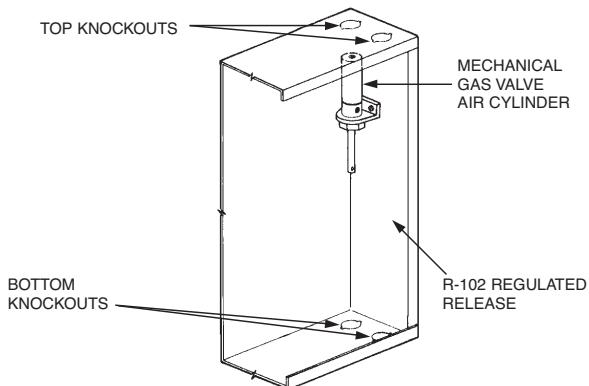

FIGURE 39
4. Locate air cylinder and bracket assembly over the two 7/32 in. (0.6 cm) holes on right side of the enclosure. Assemble with screws, lockwashers, and nuts. Wrench tighten. See Figure 38. Air cylinder(s) can also be mounted in the inverted position, allowing for direct exit out the knockout(s) in the bottom of the enclosure. See Figure 39.